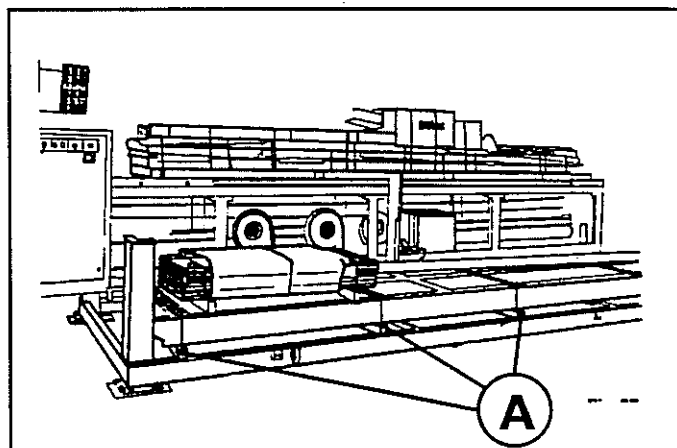

Fig.2.11
- 1- Divide the various components of the machine into groups (fig.2.11).
- withdraw the support tubes (A fig.2.11)